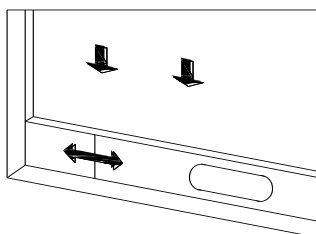
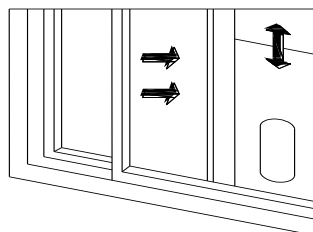

Figure 2
Figure 3
1) Half open the window, and mount the window sealing plate assembly to the window (as shown in Fig.2 and Fig.3).Components can be placed in horizontal and vertical direction.